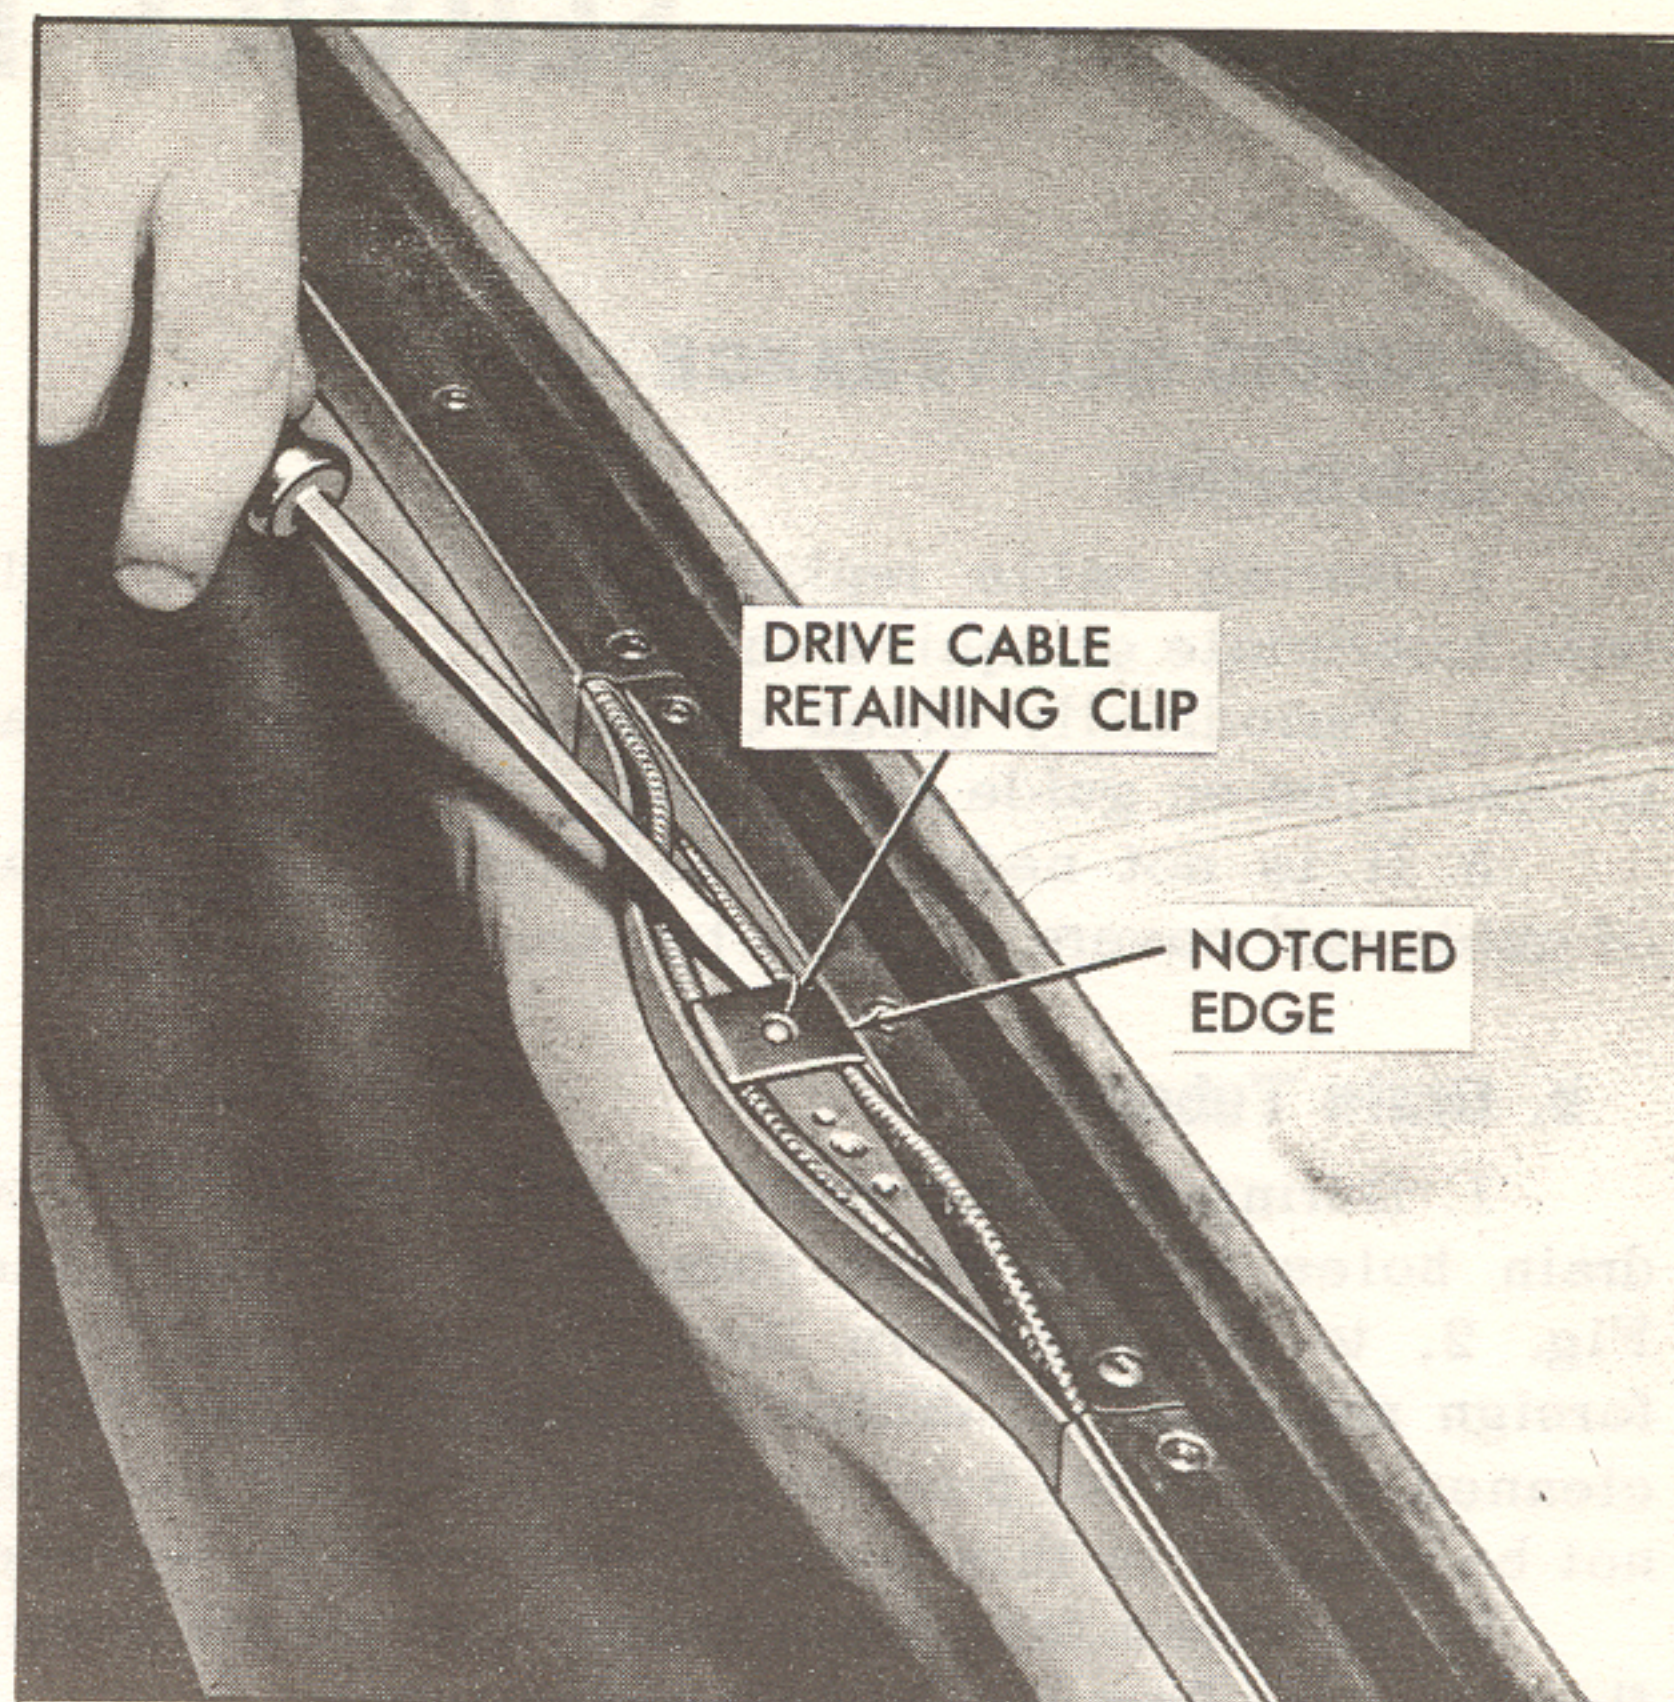

Fig. 12. Removing Drive Cable Retaining Clip
2. Open roof panel, remove drive housing center cover and pry off drive cable retaining clip. Fig. 12.
5. Using a small screwdriver, carefully pry up drive cable retaining clip, Fig. 12.
**NOTE:** Narrow (notched) edge of clip is positioned toward front of vehicle, Fig. 12.